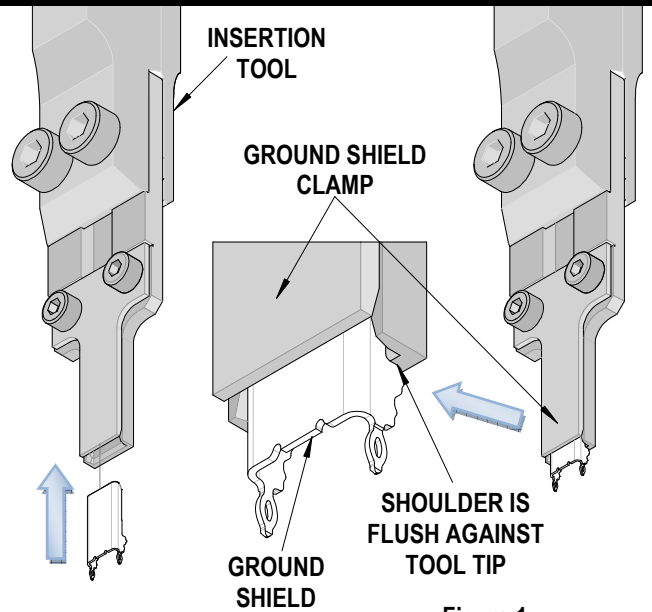

Figure 1
3. The ground shield is completely seated in the insertion tool when, the ground shield is resting against the insertion tool tip and can no longer be moved up. See Figure 1.